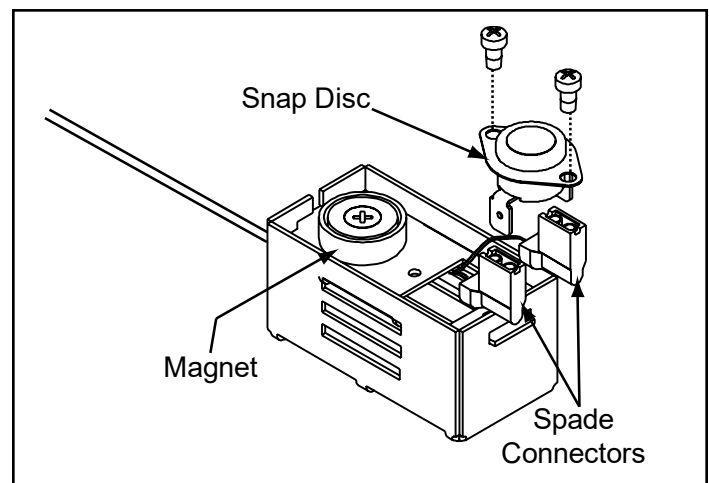

Figure 22.1
- Pull the snap disc and spade connectors up and out of bracket as shown in Figure 22.1